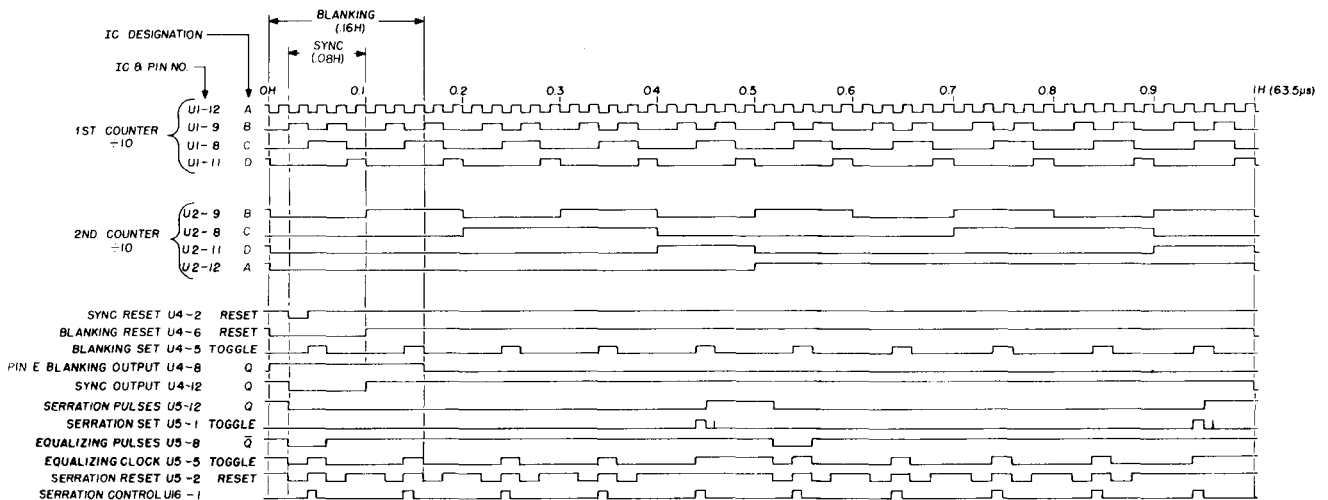

fig. 8. Horizontal interval waveforms. Note that the sync pulse starts after blanking starts and ends before the picture is unblanked.
**Line decoding.** A number of counters and flip-flops combine to form window circuits for the purpose of extracting the horizontal sync and blanking pulses (fig. 8). A total frequency division of 100 provides a